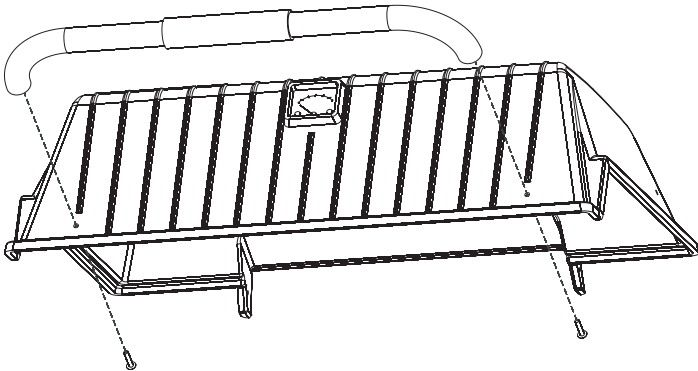

Figure 10
9. Fasten the lid handle to the grill body top (1) with two #10-24 x 1" screws. See Figure 10.